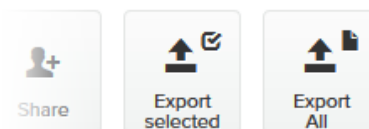

Figure 72. Plug-ins web page (code export controls)
4. To export only selected Activation codes, check the selection check-boxes to the left of each plug-in that must be included in the *.CSV file, then click the **Export selected** button. Alternatively, export all Activation codes by clicking the **Export All** button (Figure 72 \(page 162\)).